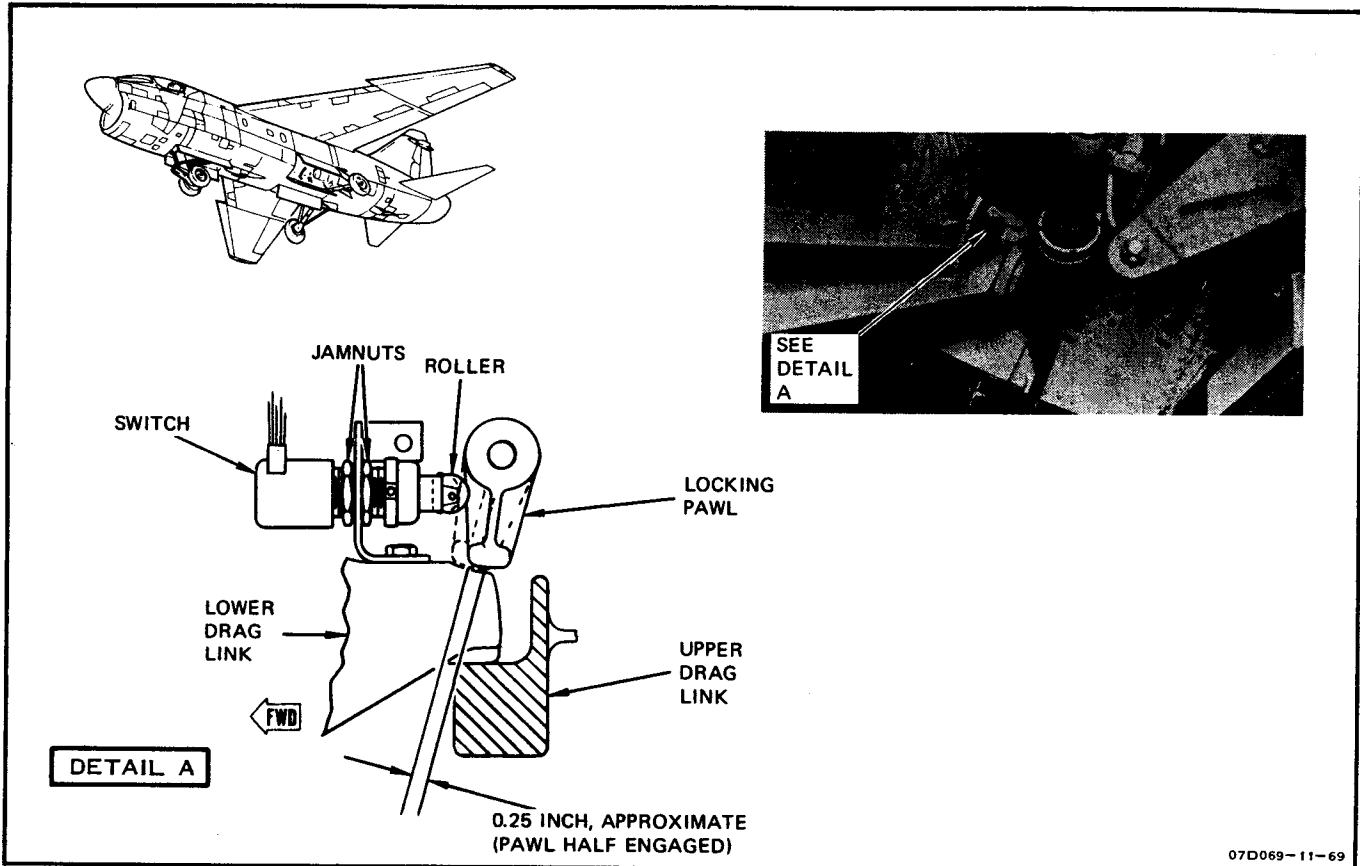

Figure 4-10. Nose Gear Downlock Switch Adjustment
**4-45. NOSE GEAR DOWNLOCK SWITCH ADJUSTMENT.** (See figure 4-10).